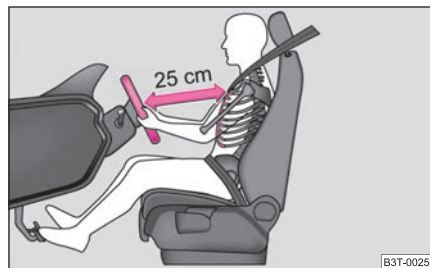

Fig. 145 The correct distance of the driver from the steering wheel ►
- Adjust the steering wheel so that the distance between the steering wheel and your chest is at least 25 cm ⇒ page 150, fig. 145.
- The driver must maintain a distance of at least 25 cm to the steering wheel ⇒ page 150, fig. 145. Not maintaining this minimum distance will mean that the airbag system will not be able to properly protect you - hazard!